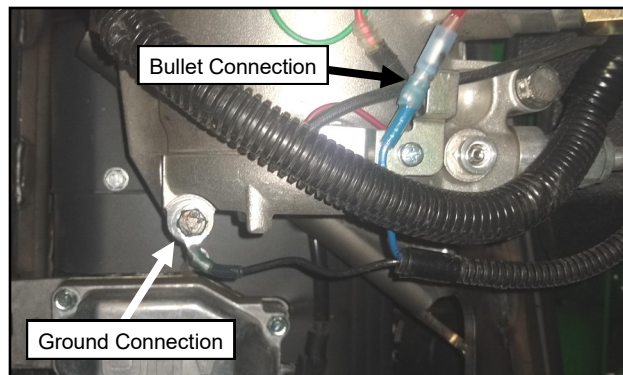

Fig. 2.12 (Compressor Wire Connections)
- 2.12** Attach the black (ground wire) with the ring terminal to the lower most rearward factory installed fastener. Plug the bullet connector found on the blue wire to the black wire on the bullet connector on the compressor. See Figure 2.12.